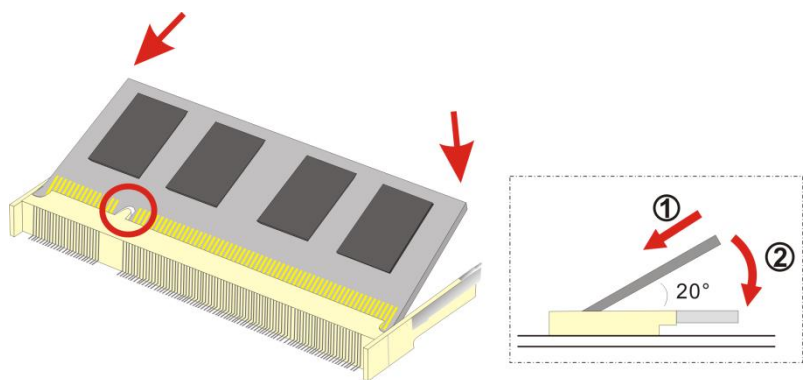

Figure 3-3: SO-DIMM Module Installation
**Step 3:** Install a SO-DIMM module by pushing it into the socket at an angle (**Figure 3-3**).
**Step 4:** Gently push the rear of the SO-DIMM module down (**Figure 3-3**). The spring retainer clips clip into place and secure the SO-DIMM module in the socket.